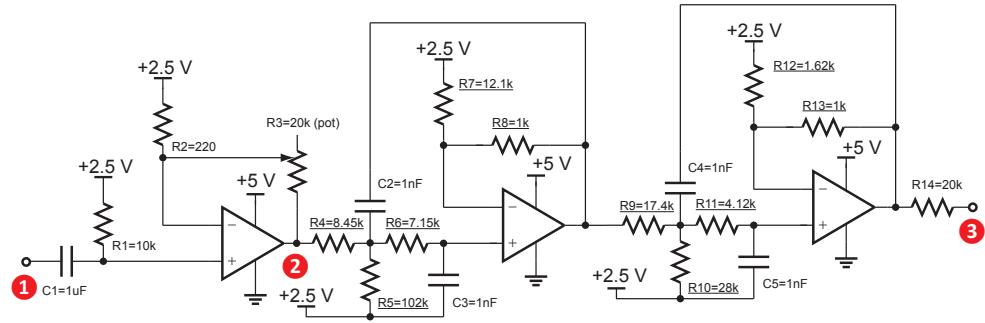

Figure 14: Schematic of the active low-pass filter. Underlined resistors values are 1% tolerance.
Fig. 14 shows the schematic of the active LPF circuit. The filter has a cut-off frequency of **15 kHz** and was designed with the TI WEBENCH filter design tool.
1. Identify the gain stage (between point 1 and point 2 Fig. 14). What is the expression of its gain? Notice that the +2.5 V supply does not affect this result, rather it simply sets the bias of the overall amplifier for maximum output swing because a single 5 V supply (battery) is used vs a dual-rail (both positive and negative) supply.
1. Identify the active LPF portion of the circuit (between point 2 and point 3 in Fig. 14). The overall filter consists of 2 low pass filters. What is the order of the overall filter and how is it determined from the schematic?
3. To measure the filter response only, input a 3 Vpp signal through a series 1  $\mu$ F capacitor at point 2 in Fig. 14 and measure the output through R14 (at point 3 in Fig. 14). Tabulate and plot the frequency response from 100 Hz to 150 kHz. What is the cutoff frequency of the filter?